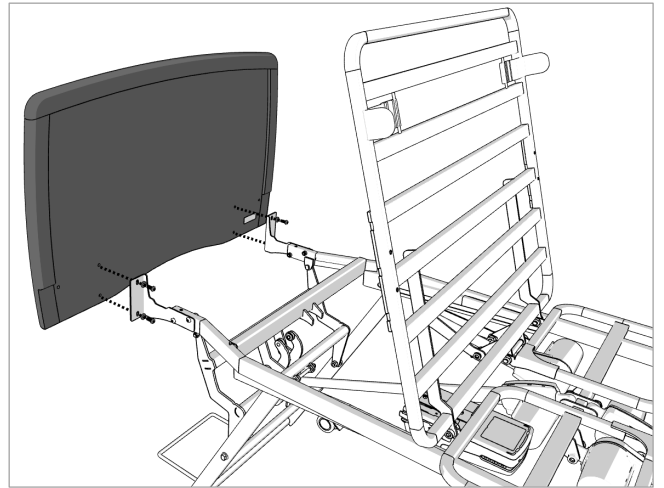

Figure 8.7 – Headboard Shown is Scandi. Fitment may vary slightly depending on specification.
- Position the headboard onto the fixing brackets as shown in Figure 8.7.